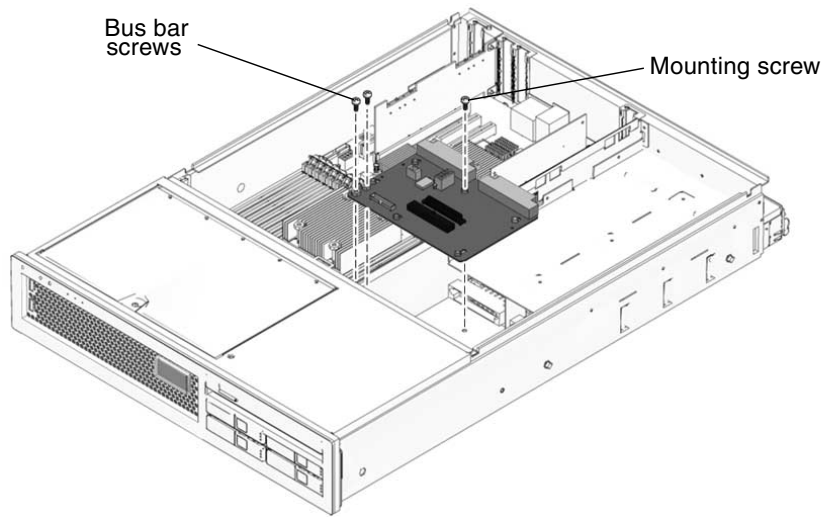

FIGURE 5-20 Installing the Power Distribution Board
3. Secure the PDB to the bus bar with two screws, and tighten all three screws (FIGURE 5-20).